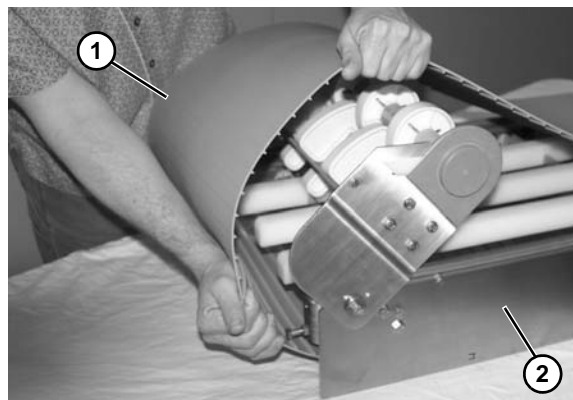

Figure 40
6. Remove the belt (**Figure 40, item 1**) from the conveyor (**Figure 40, item 2**).